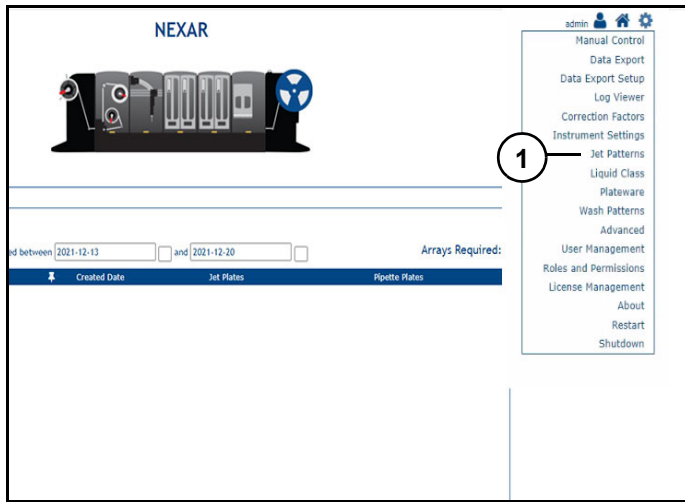

Figure 20
Jet Patterns (1) (Figure 20): Opens jet patterns page.